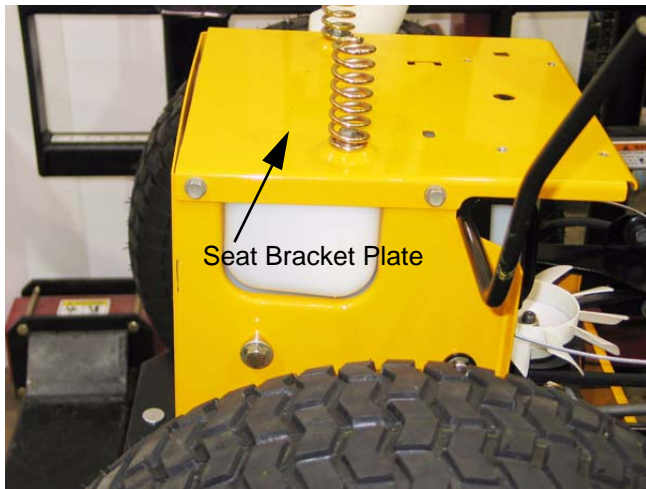

Figure 6.15
- 6.15. Remove the plate that supports the seat brackets using a 1/2" wrench. See Figure 6.15.